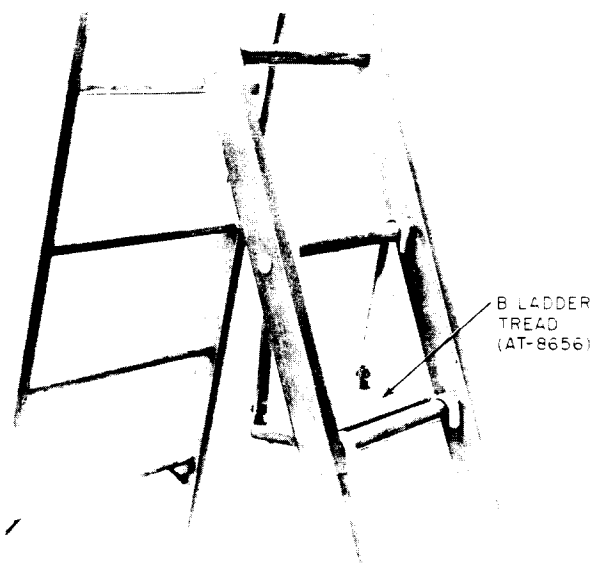

Fig. 2—B Ladder Tread (AT-8656)
3.02 The C combination ladder will accept the B ladder tread, AT-8656 (Fig. 2), which will provide a greater surface for the feet of the craftsman when prolonged standing on the ladder is required.